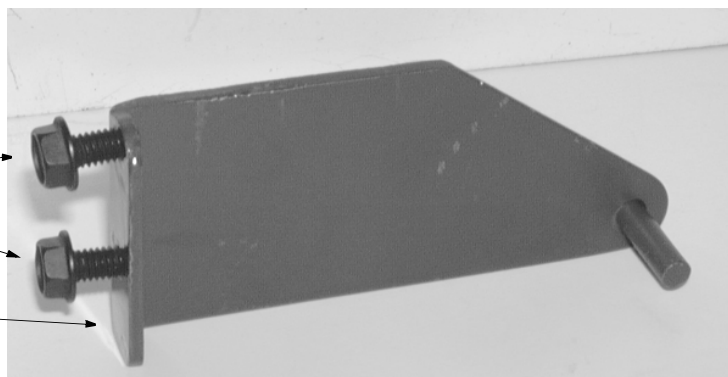

Figure 1
1. Place the Bracket on a flat surface and thread the Self Tapping Screws into it using a 1/2" wrench. See Figure 1.